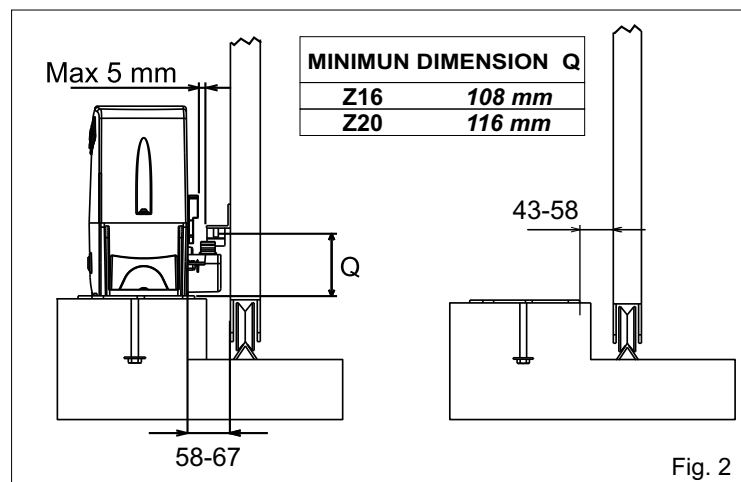
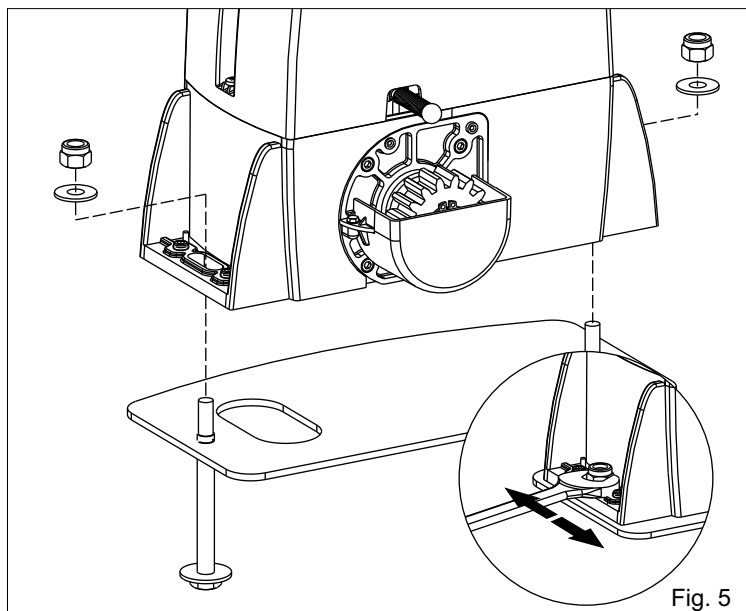

Fig. 2
Fig. 5
2.3. Before concreting in the plate, make sure that it is perfectly leveled and that the distance of 58-67 mm as shown in Fig. 2 is respected.
4.2. Fix the motor reducer to the foundation plate with the 2 included nuts, adjusting the side position (Fig. 5) so to respect the shown quota in (Fig. 2).